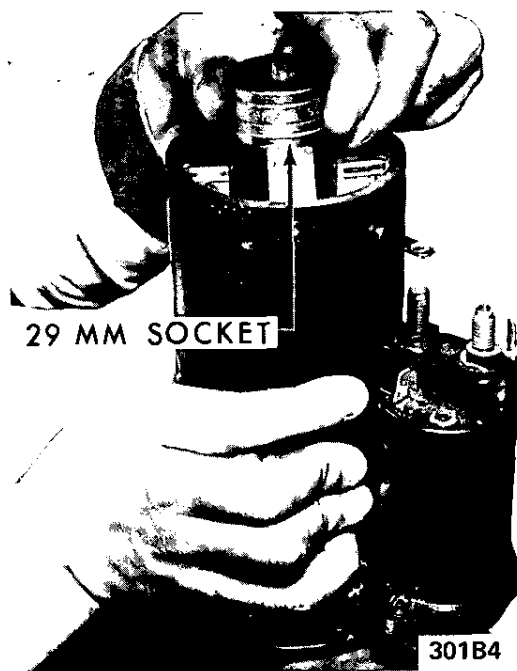

Figure 1B-4 Removing Field Frame
4. To prevent brushes from coming out when removing the field frame, place a 29 millimeter socket over commutator while lifting up on the field frame. The brushes will be held in place by the socket. See Figure 1B-4.